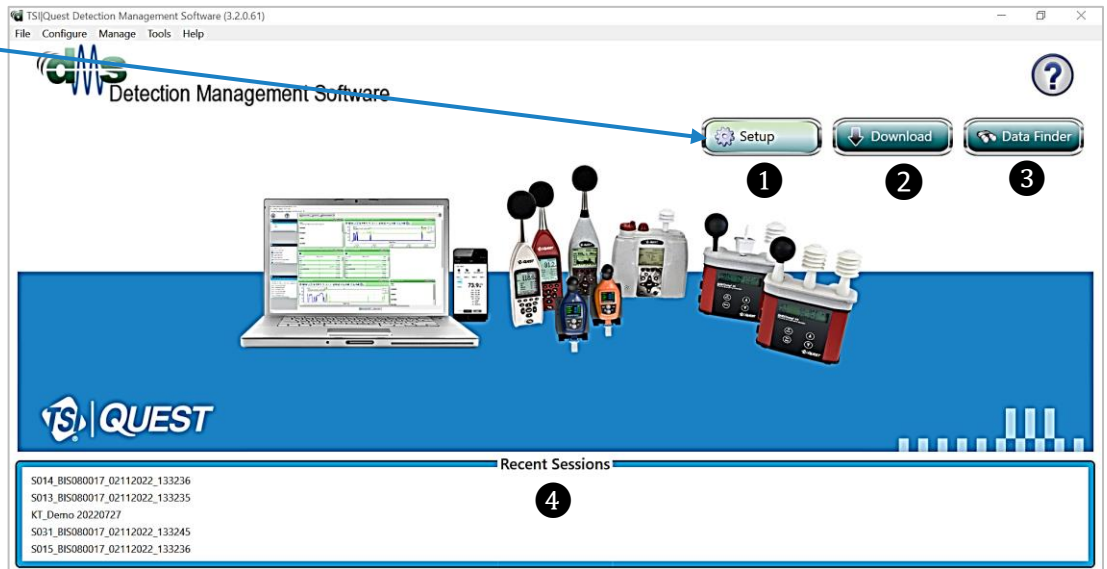

Figure 1-2: Start up screen
When either the Setup or Download buttons (see ① and ②, Figure 1-2) are clicked, the instrument communications page will open. The primary functions there include:
When the **Data Finder** button (see ③, Figure 1-2) is clicked, the data finder page will open to provide you access to your downloaded data files. The page is organized in a tabular format by instrument family (sound level meters, dosimetry, heat stress, and environmental monitoring.) session data and study data. (See “Glossary” for session and study data terms.)
The bottom of the screen displays **Recent Sessions** (see ④, Figure 1-2) for accessing your previously accessed data files.